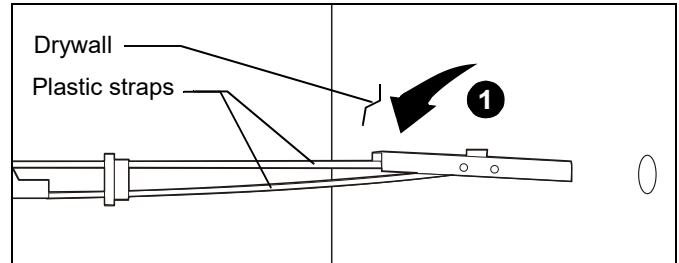

Figure 29
1. Hold metal channel on anchor flat alongside plastic straps and slide channel through hole. (See Figure 29)